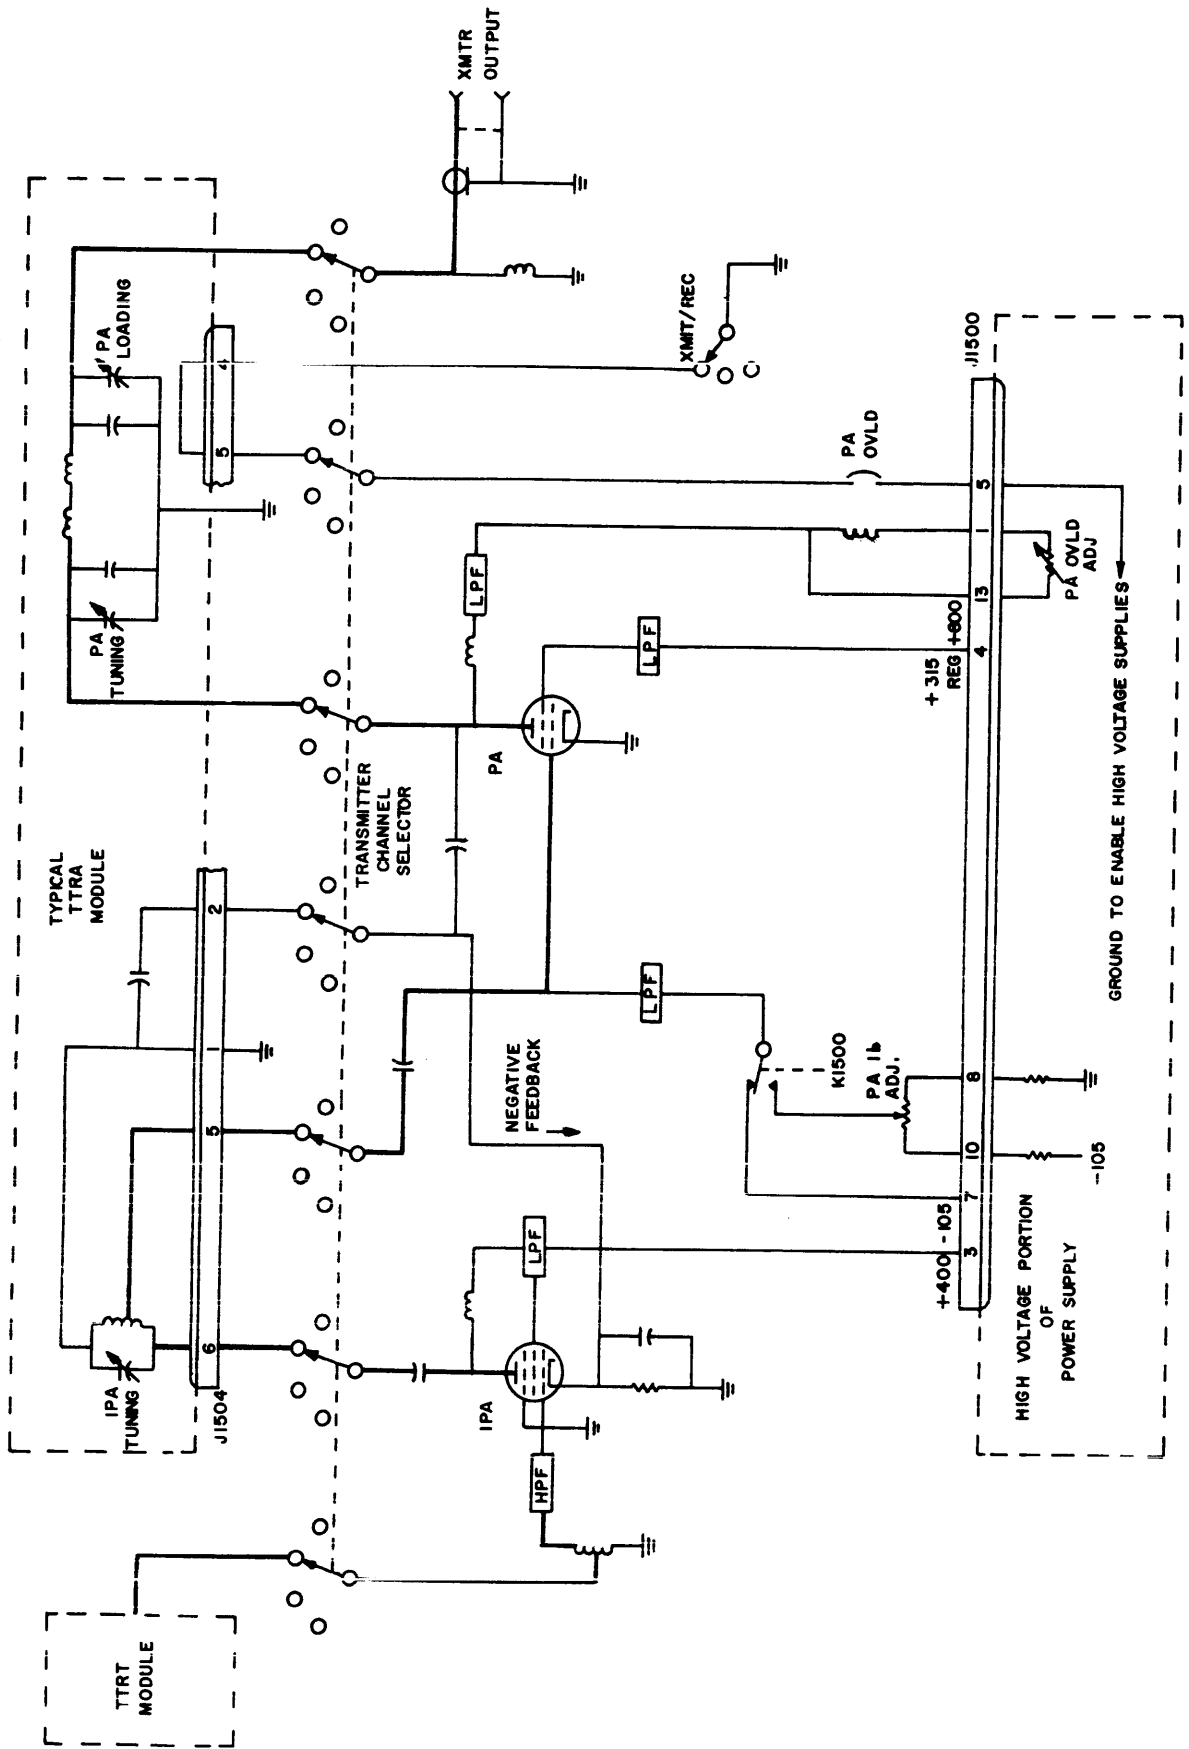

FIGURE 4-6. LINEAR AMPLIFIER, SIMPLIFIED SCHEMATIC
i. **LINEAR AMPLIFIER.** The linear amplifier consists of two power-amplifier stages, switch selected tuning networks (TTRA modules), and overload protection circuits. The Linear amplifier produces an output of 100 watts maximum peak envelope power from an input of 100 milliwatts. (Refer to figure 4-6).